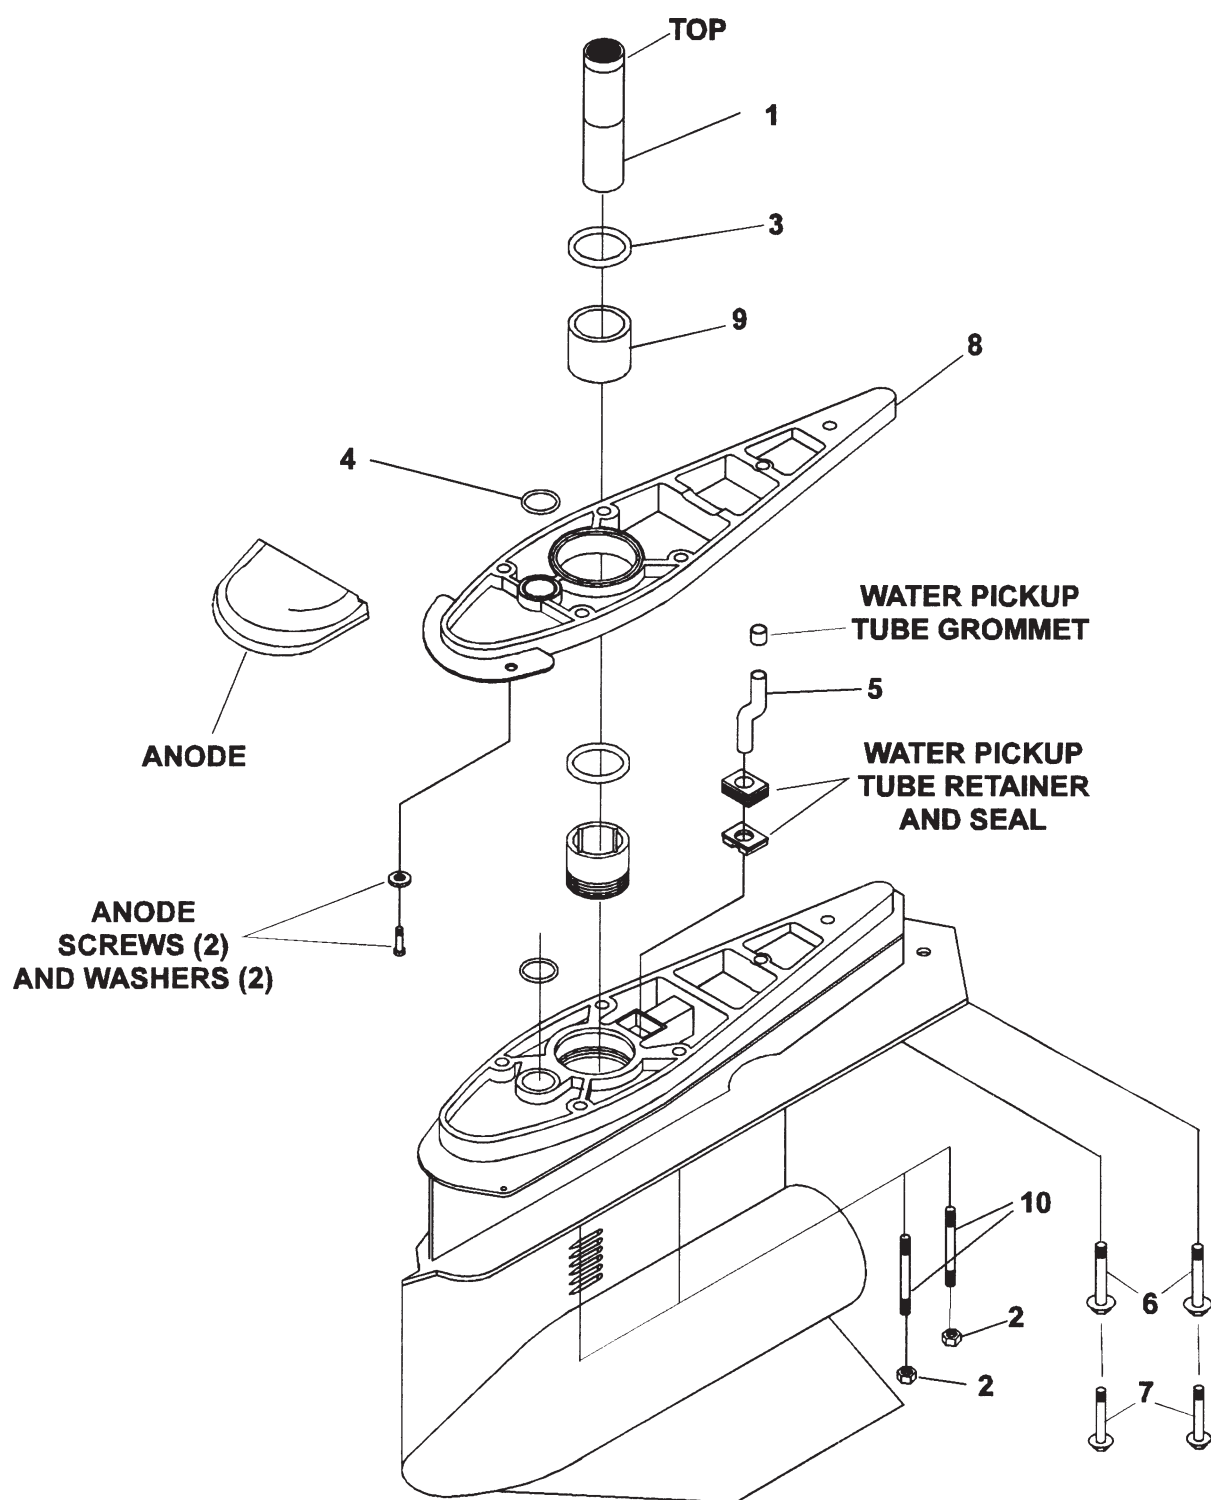

Figure 1. 1" Drive Extension Kit Installation
2. For all drives, temporarily install two nuts (2) on the end of each new stud.
3. Insert and tighten each stud (10) into the upper drive housing until 27-34 N·m (20-25 ft. lbs.) of torque is reached, remove the two nuts.
5. With the o-ring grooves facing up, lay the extension plate over the lower drive housing, ensure the extension plate (8) fits tightly to the upper surface of the lower drive unit.
6. Place a light coating of water resistant grease around the lower vertical shaft bearing retainer extension spacer (9). Insert the extension spacer (9) into the extension housing.
7. Clean the oil strainer screen located in the upper gear housing oil passage. Install o-rings (3 & 4) around the oil passage and the extension spacer (9) in the extension housing.
8. Reuse the water pickup tube grommet located in the upper gear housing and the tube retainer and seal located in the lower gear housing. Install the new, longer copper water pickup tube (5) into the upper gear housing.
9. Install the new, longer intermediate shaft (drivesaver) (1), with the outside groove facing upward, onto the lower vertical shaft.
10. Install the anode on the spacer (8) using the two screws and washers as shown in figure 1.